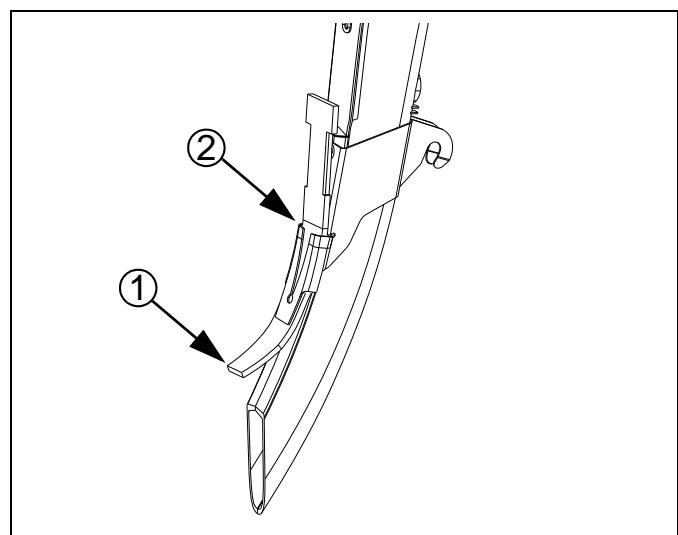

Figure 46
**Seed Flap Replacement****Refer to Figure 46**